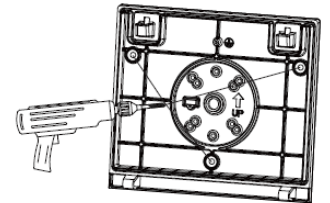

Fig. 2.4
5. Use an electric drill to drill the mounting holes on the mounting plate of the luminaire (Fig. 2.4).